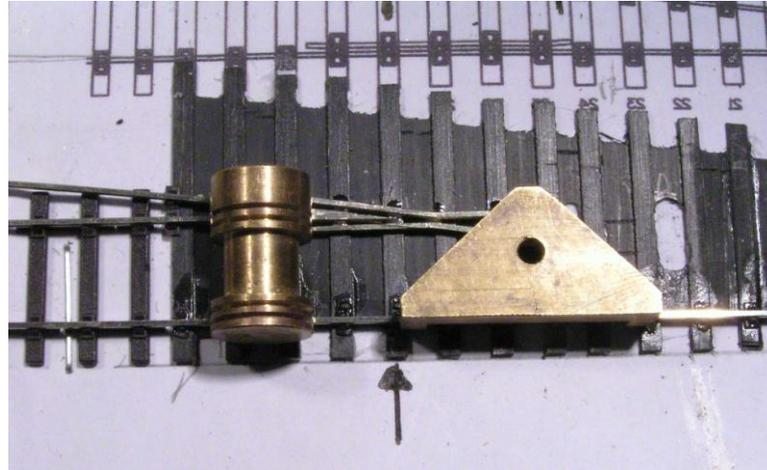

Fig 8 Setting the crossing with the tip of the nose on the edge of the timber with the arrow and the gauges holding it in the correct position.
9. Use 1 hour epoxy on the crosspieces of the crossing to stick it down on the timbers. Get it in the correct place over the template. Use a roller gauge and a three point gauge to position the crossing and get it exactly to gauge with the stock rail. See fig 8. Leave it to cure with a weight on it.